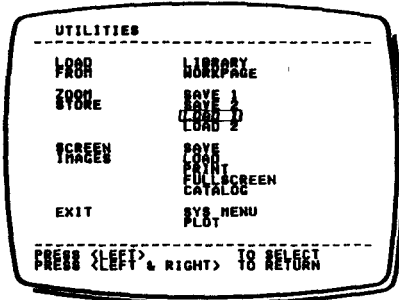

Fig 5
- 2 Move XY to select ZOOM STORES - LOAD 1 as in Fig 5. Press and release L to confirm.